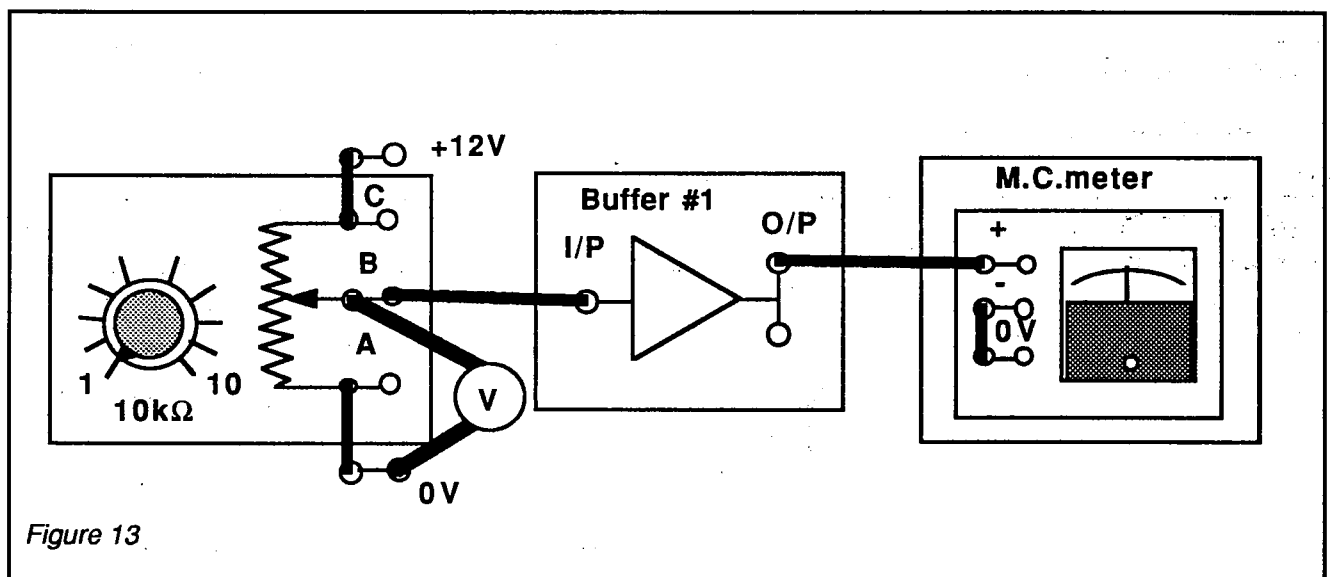

Figure 13
- Now connect the moving coil (M.C.) meter to the $10\text{k}\Omega$ positional resistance transducer, via the buffer #1 amplifier as shown in Fig 13. Note the output voltage indicated by the digital meter.